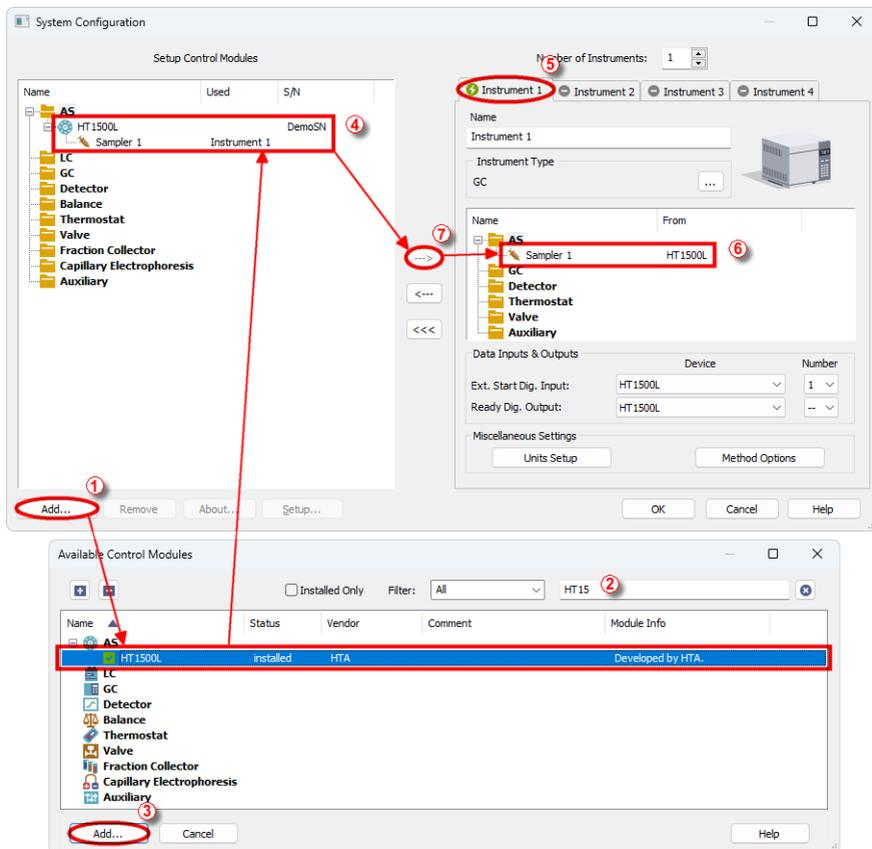

Fig. 2: System Configuration
- Press the *Add* button ① (see Fig. 2 on pg. 4.) to invoke the *Available Control Modules* dialog.
- You can specify the searching filter ② to simplify the finding of the driver.
- Select the **HT1500L** sampler and press the *Add* ③ button.